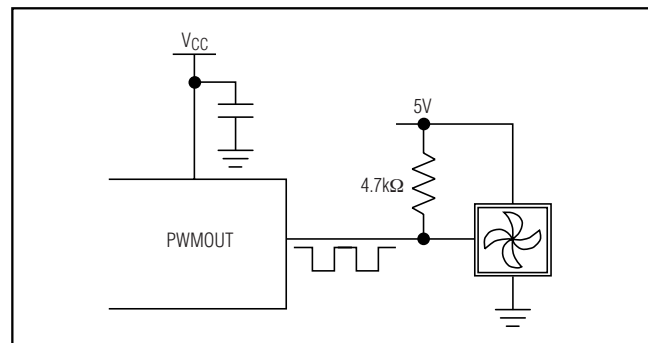

Figure 6. Controlling a PWM Input Fan with the MAX6678's PWM Output (Typically, the 35kHz PWM Frequency Is Used)
- 3) PWMOUT_ directly drives the logic-level PWM speed-control input on a fan that has this type of input. This approach requires fewer external components and combines the efficiency of 1) with the low noise of 2). An example of PWMOUT_ driving a fan with a speed-control input is shown in Figure 6. Bit D4 in register 02h should be set to 1 when this configuration is used.